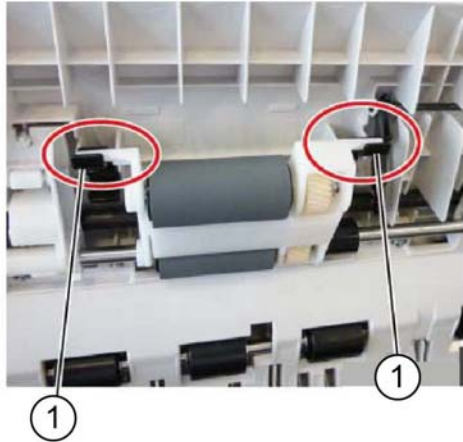

Figure 4 Set link alignment
3. Ensure the feed/nudger roll assembly is installed to correctly align with the front and rear set links (1), Figure 4.